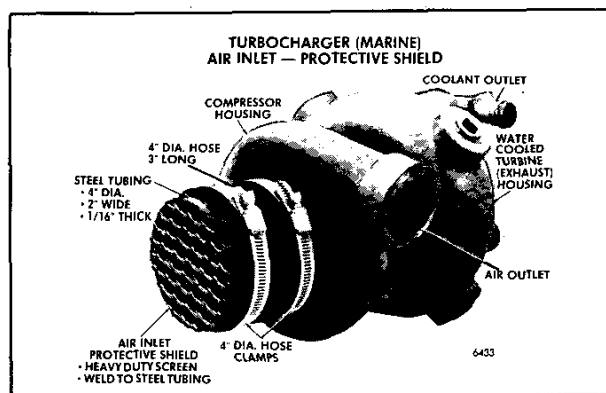

Fig. 5 - Turbocharger Inlet Shield
**CAUTION:** A turbocharger compressor inlet shield can be fabricated (Fig. 5) and must be used anytime the engine is operated with the air inlet silencer removed. The shield prevents a serviceman from touching the moving impeller and helps to prevent foreign objects entering the turbocharger. The use of